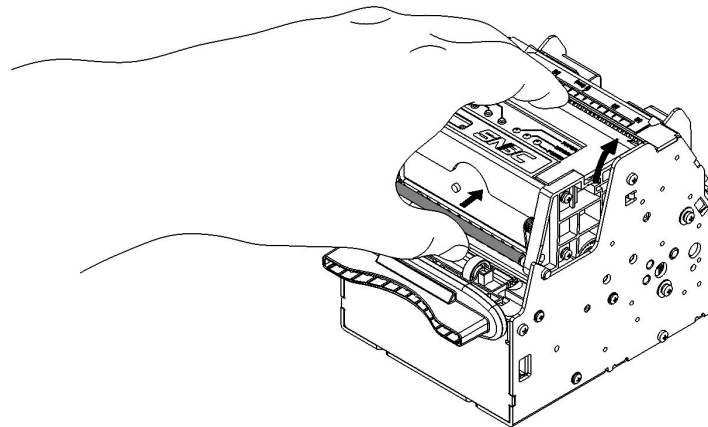

Figure 5.2-1 Cleaning print head
- 2) Slightly press the central part of the locking axis of top cover in the direction as shown in the figure 5.2-1 to open the top cover module;
- 2) Slightly press down the locking axis of top cover in the direction shown in the figure 5.2-1 to open the top cover module;
- 2) Refer to step 2 in "5.2 Cleaning print head and platen roller", slightly press down the locking axis of top cover in the direction shown in figure 5.2-1, and open the top cover module;